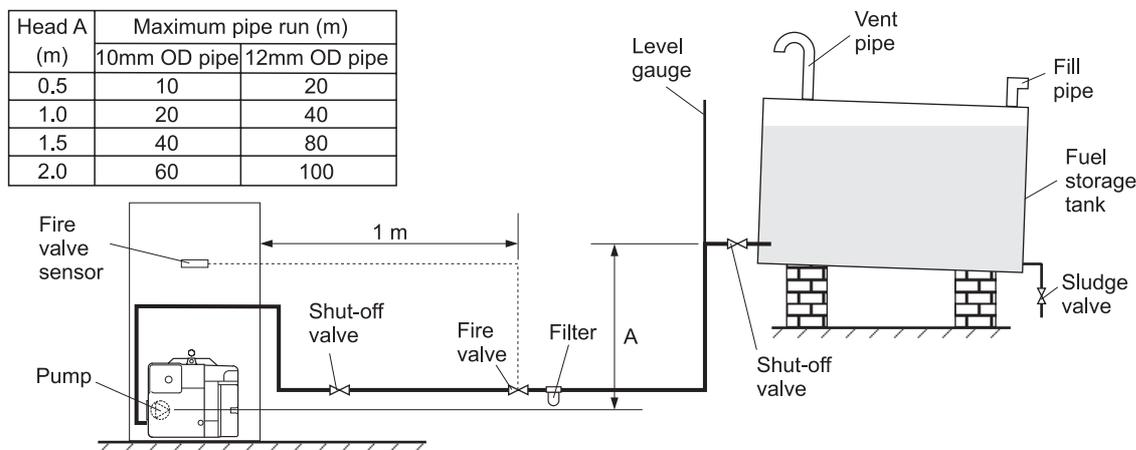

Fig. 5 - Single pipe system
5.4.3 Single pipe system - (See Fig. 5)
- When the storage tank outlet is below the burner, the two pipe system should be used. The pipe runs should be as shown in Fig. 5. The return pipe should be at the same level in the tank as the supply pipe, both being 75 to 100 mm above the base of the tank. The pipe ends should be a sufficient distance apart so as to prevent any sediment disturbed by the return entering the supply pipe.